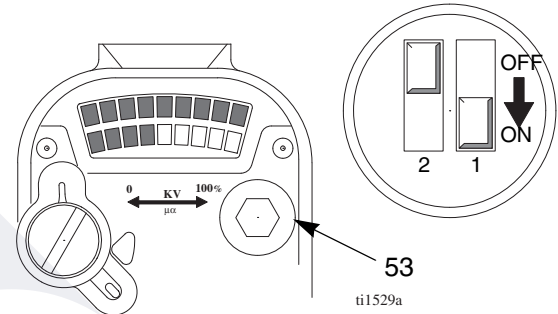

Fig. 5. Low Voltage Adjustment Switches
2. Remove the LO VOLTAGE adjustment plug (53). Set the desired voltage, using a small screwdriver to slide switches 1 and 2 ON or OFF, according to Table 3 . Also see FIG. 5.